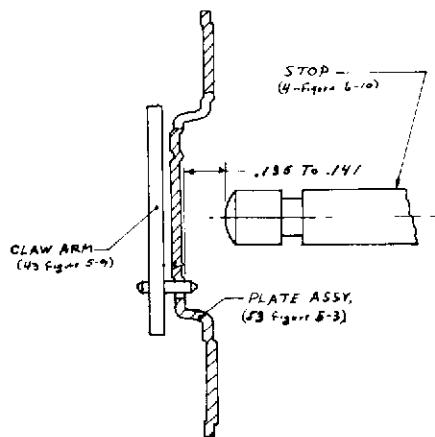

Figure 3-28. LENS HOLDER STOP ADJUSTMENT
- Assemble belt (24) with toothed surface away from pulley.
- Lubricate working surface of plunger (16) and arm (11) with Versilube G-322L grease.
- Replace retainer (12). DO NOT REUSE.
- Adjust stop (p/o Lensholder 41, Fig. 5-3) to produce .135 to .141" as shown in Fig. 3-28.